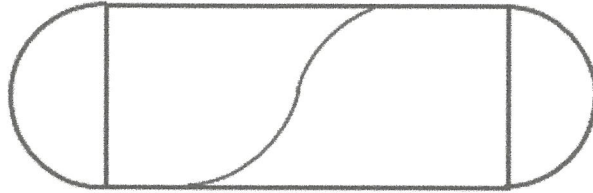

Figure Q5
- Q5.** A cylindrical pressure vessel with an inside diameter of 1.50 m is constructed by wrapping a 15 mm thick steel plate into a spiral and butt welding the mating edges of the plate as shown in **Figure Q5**. The butt welded seams form an angle of 30° with a transverse line through the cylinder and the internal pressure in the vessel is 1500 kPa.